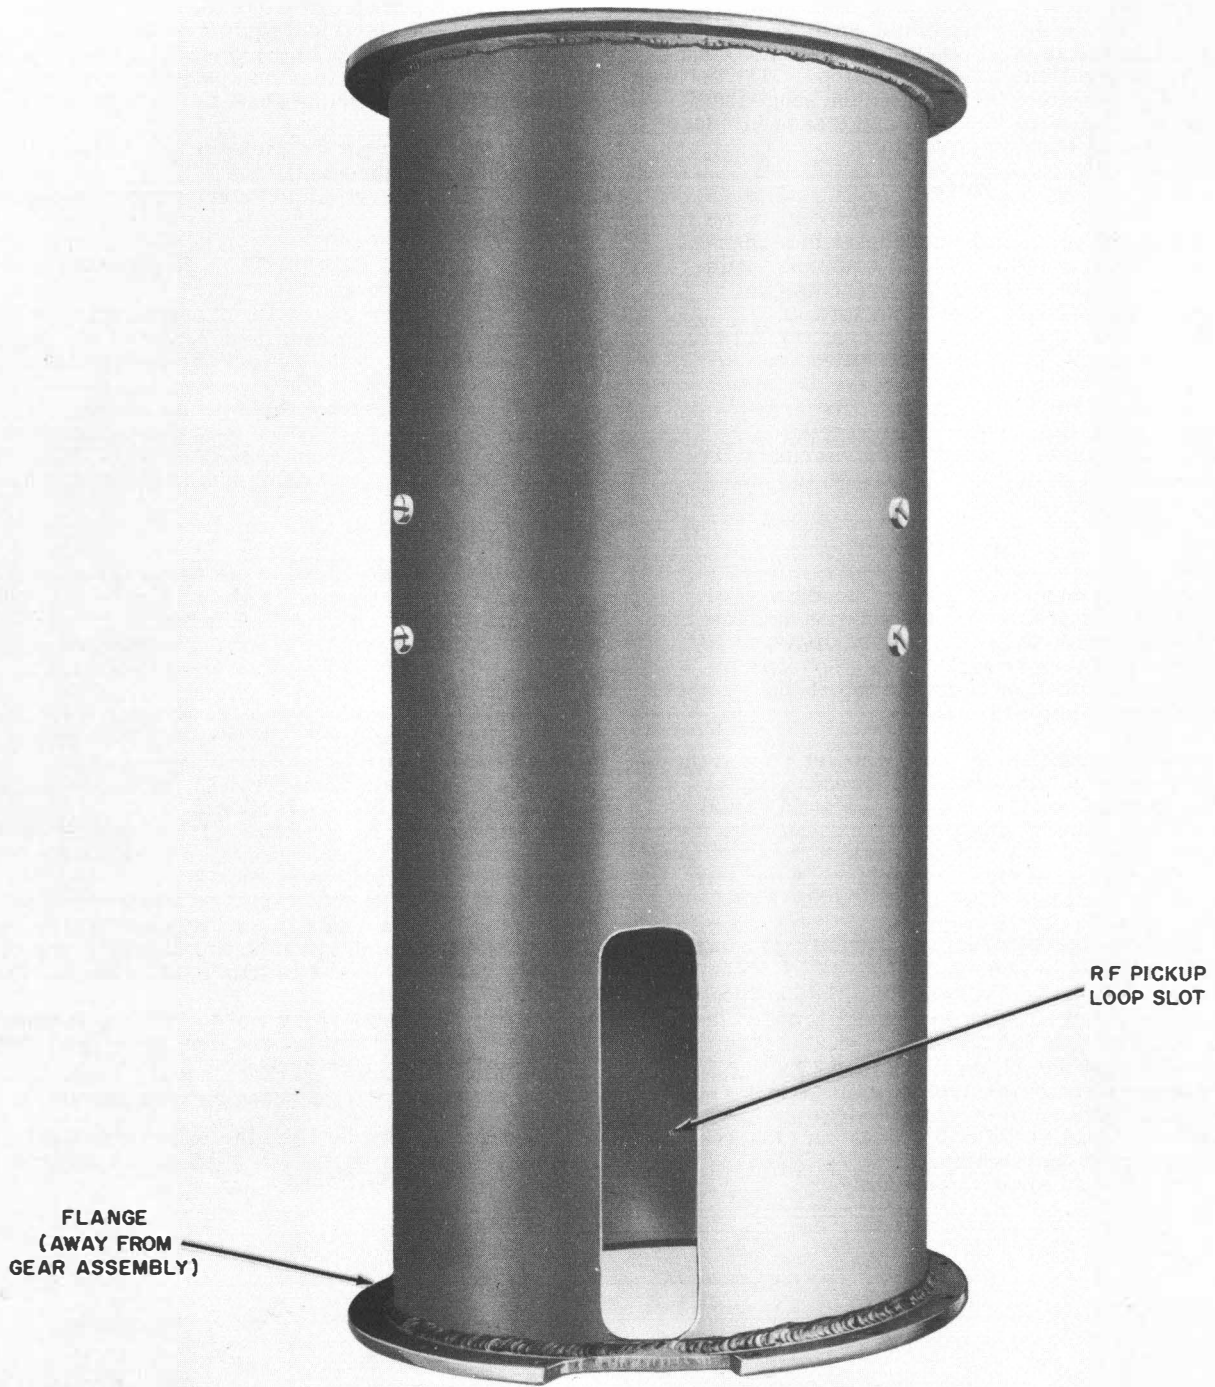

Figure 6-16. Antenna Coupler Tuner Housing Drum
(1) Fasten the coil subassembly to the antenna coupler housing drum (see figure 6-16). Check to see that pick-up coil L102 or L202 is in place and correctly positioned.
(2) Reassemble the antenna coupler as described in steps one through four of paragraph 6-5g.
(3) Install the antenna coupler in the electrical equipment cabinet as described in steps 13 through 20.